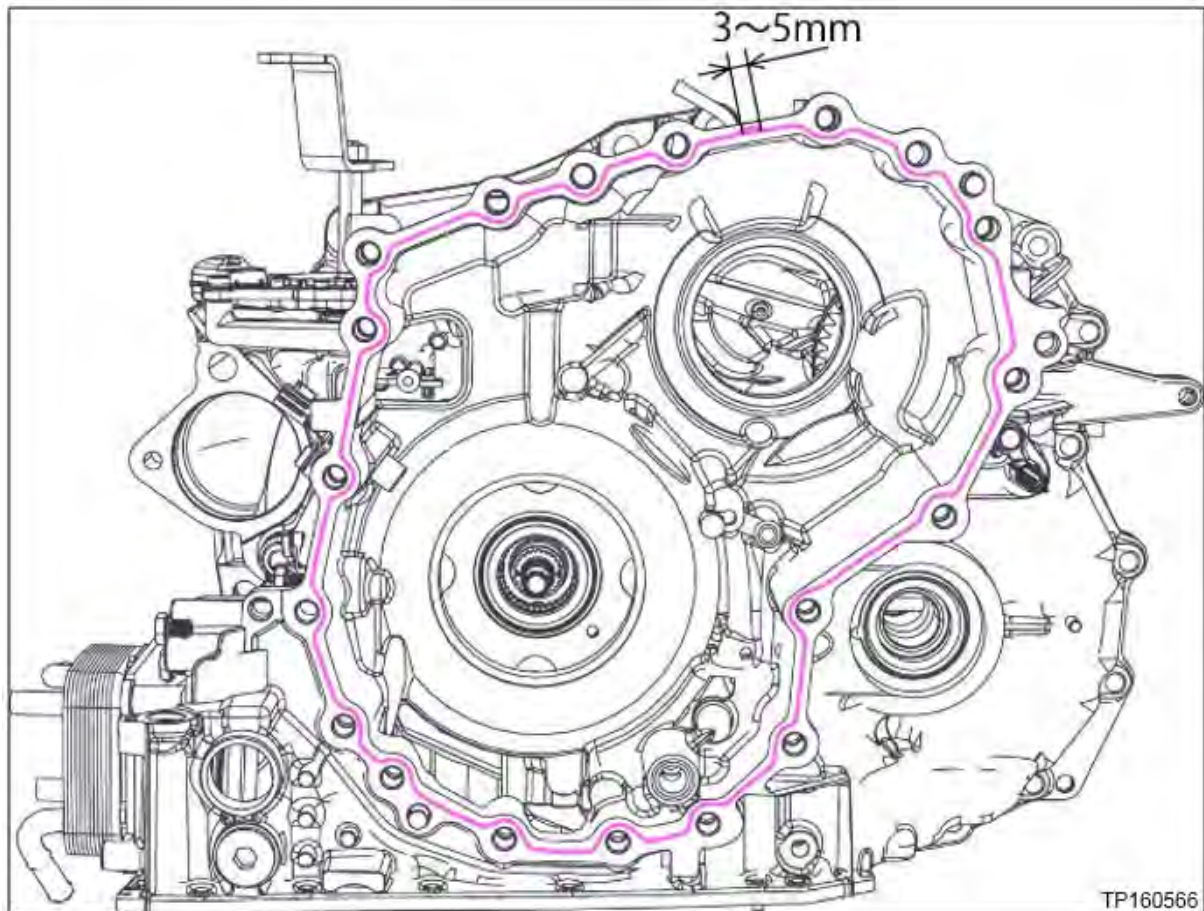

Figure 88
70. Apply one continuous 2.0 mm diameter bead of sealant along the center of the CVT case side mating surface (Figure 88).